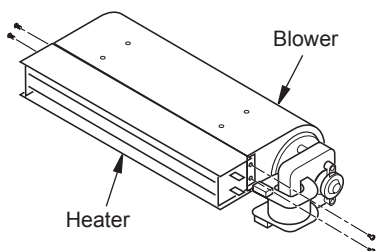

Figure 13 - Removing Heater from Blower
8. If replacing blower, remove screws from brackets on blower (see Figure 13, page 10). Install brackets to new blower.